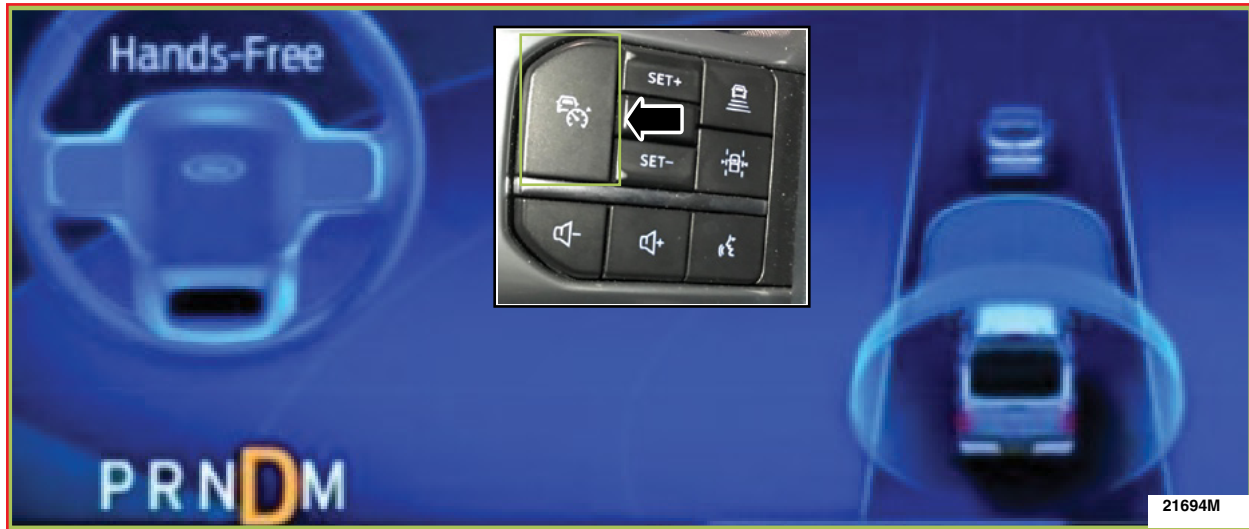

FIGURE 10
38. Optional verification if performing Hands-OFF BlueCruise test drive when the following conditions are satisfied. See Figure 10.